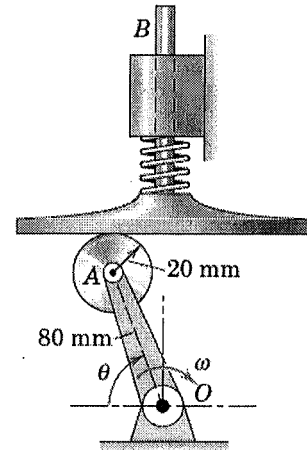

Fig. 7b
(b) Determine the acceleration of the shaft B for $\theta=60^\circ$ if the crank OA has an angular acceleration $\ddot{\theta}=8\text{rad/s}^2$ and an angular velocity $\dot{\theta}=4\text{rad/s}$ at this position. The spring maintains contact between the roller and the surface of the plunger (Fig. 7b). (10)